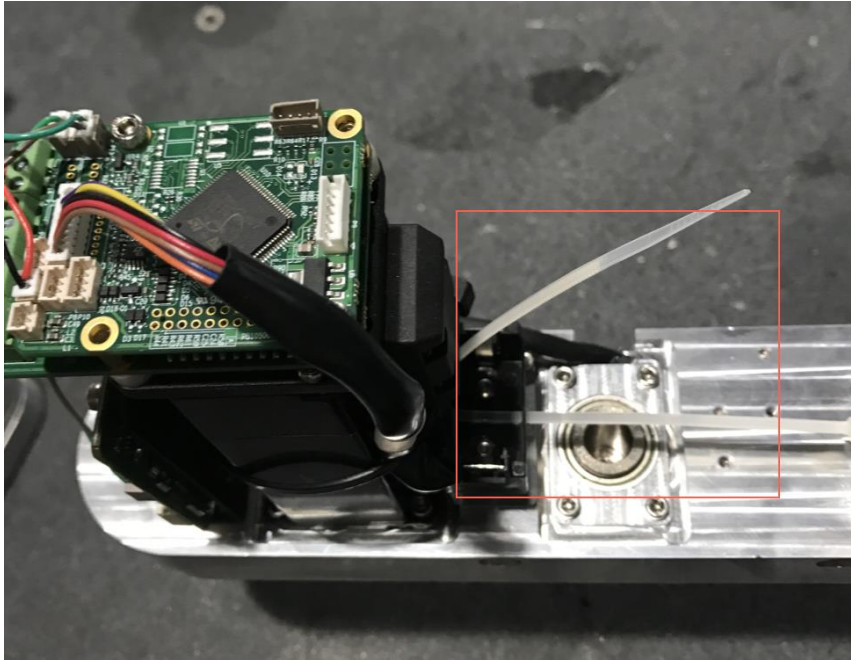

Figure 7.16 Insert wire tie
- Step 7** Insert the wire tie to the battery holder on Forearm to fix battery, as shown in Figure 7.16.